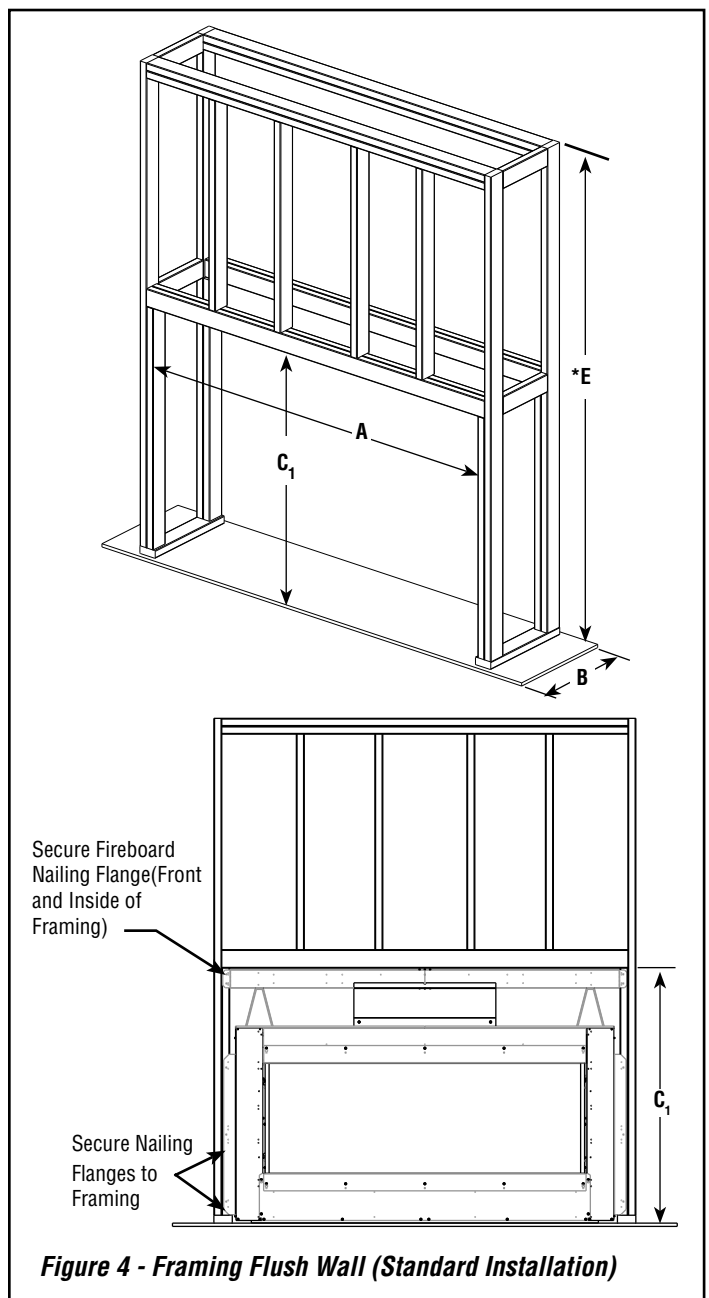
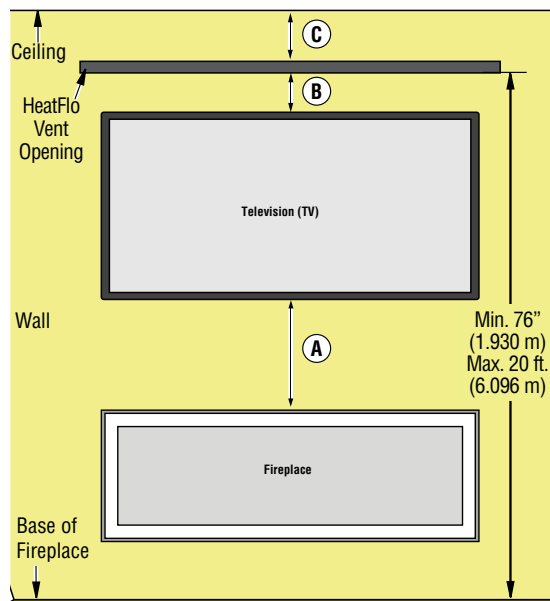
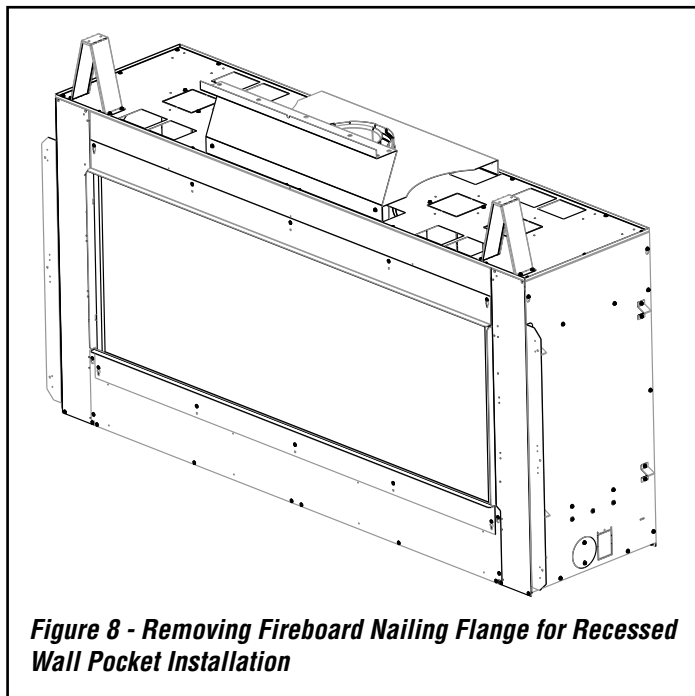
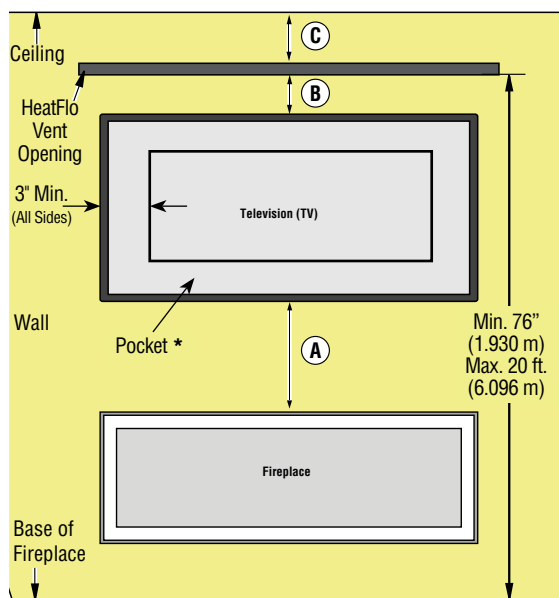

Figure 4 - Framing Flush Wall (Standard Installation)
Figure 6
Figure 8 - Removing Fireboard Nailing Flange for Recessed Wall Pocket Installation
Figure 9 - Dimensions for Television (TV) Installed Above Fireplace on a Recessed Wall Pocket
3. Headers may be in direct contact with the top of the nailing flange, maintaining the 11" clearance to the fireplace top, but must not be supported by them or notched to fit around them after self supporting (see **Figure 4**). All construction above the fireplace must be self-supporting. DO NOT use the fireplace for structural support. **NOTE:** On a recessed wall pocket installation, discard fireboard nailing flange leaving fireplace top spacers and heatshield (see **Figure 8, Page 16**). Header may be in direct contact with the fireplace top spacers and heatshield maintaining the 7-1/2" clearance to the fireplace top.
4. **Figure 4**, shows a typical framing of this fireplace. **Figure 6, Page 15** shows framing for HeatFlo kit installation. **Figure 9, Page 16** shows a recessed framing for HeatFlo kit installation. All minimum clearances must be met. Vent pipe needs to maintain 1" clearance. Wood studs may be notched. Fireboard is provided for facing around the fireplace.
NOTE: On a recessed wall pocket installation, discard fireboard nailing flange leaving fireplace top spacers and heatshield (see **Figure 8**). Header may be in direct contact with the fireplace top spacers and heatshield maintaining the 7-1/2" clearance to the fireplace top.
NOTE: Remove Fireboard Nailing Flange for recessed installation (**Figure 8**).